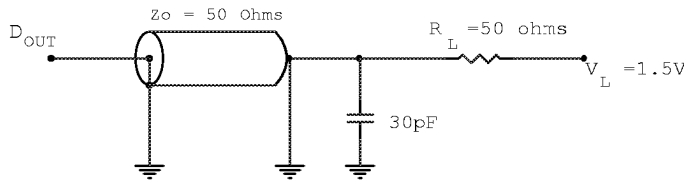

Fig. 1 Output Load Equivalent
Output load	See Figures 1 and 2
- Test conditions as specified with the output loading as shown in Fig. 1 unless otherwise noted.